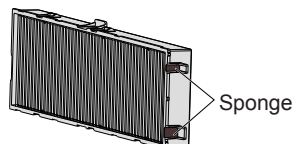

Fig. 1
- Take care not to remove the sponge (Fig. 1) on the side of the air filter unit when removing or attaching the air filter unit.